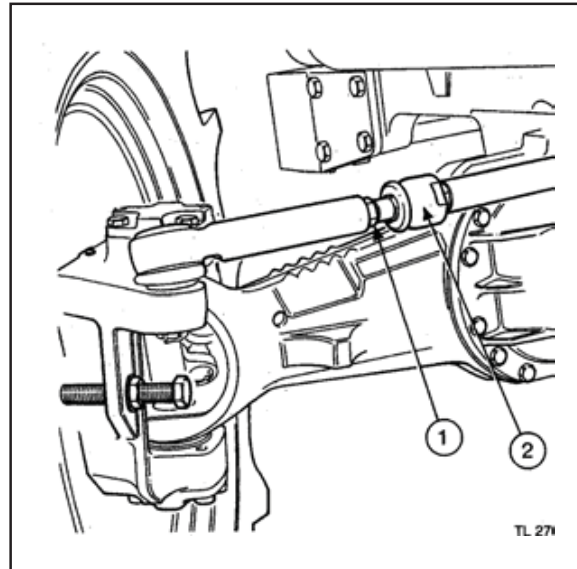

Fig.113
1. Loosen the lock-nut (1, Fig 113) on the track rod on one side only.
2. Rotate the inner steering ball joint (2) to either increase or decrease the track rod length to obtain the correct setting.